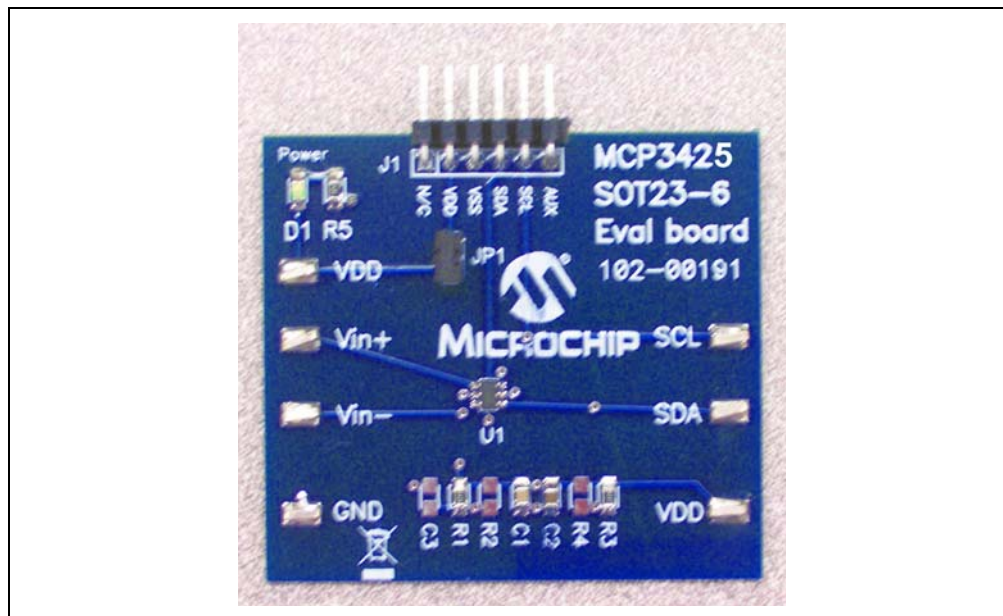
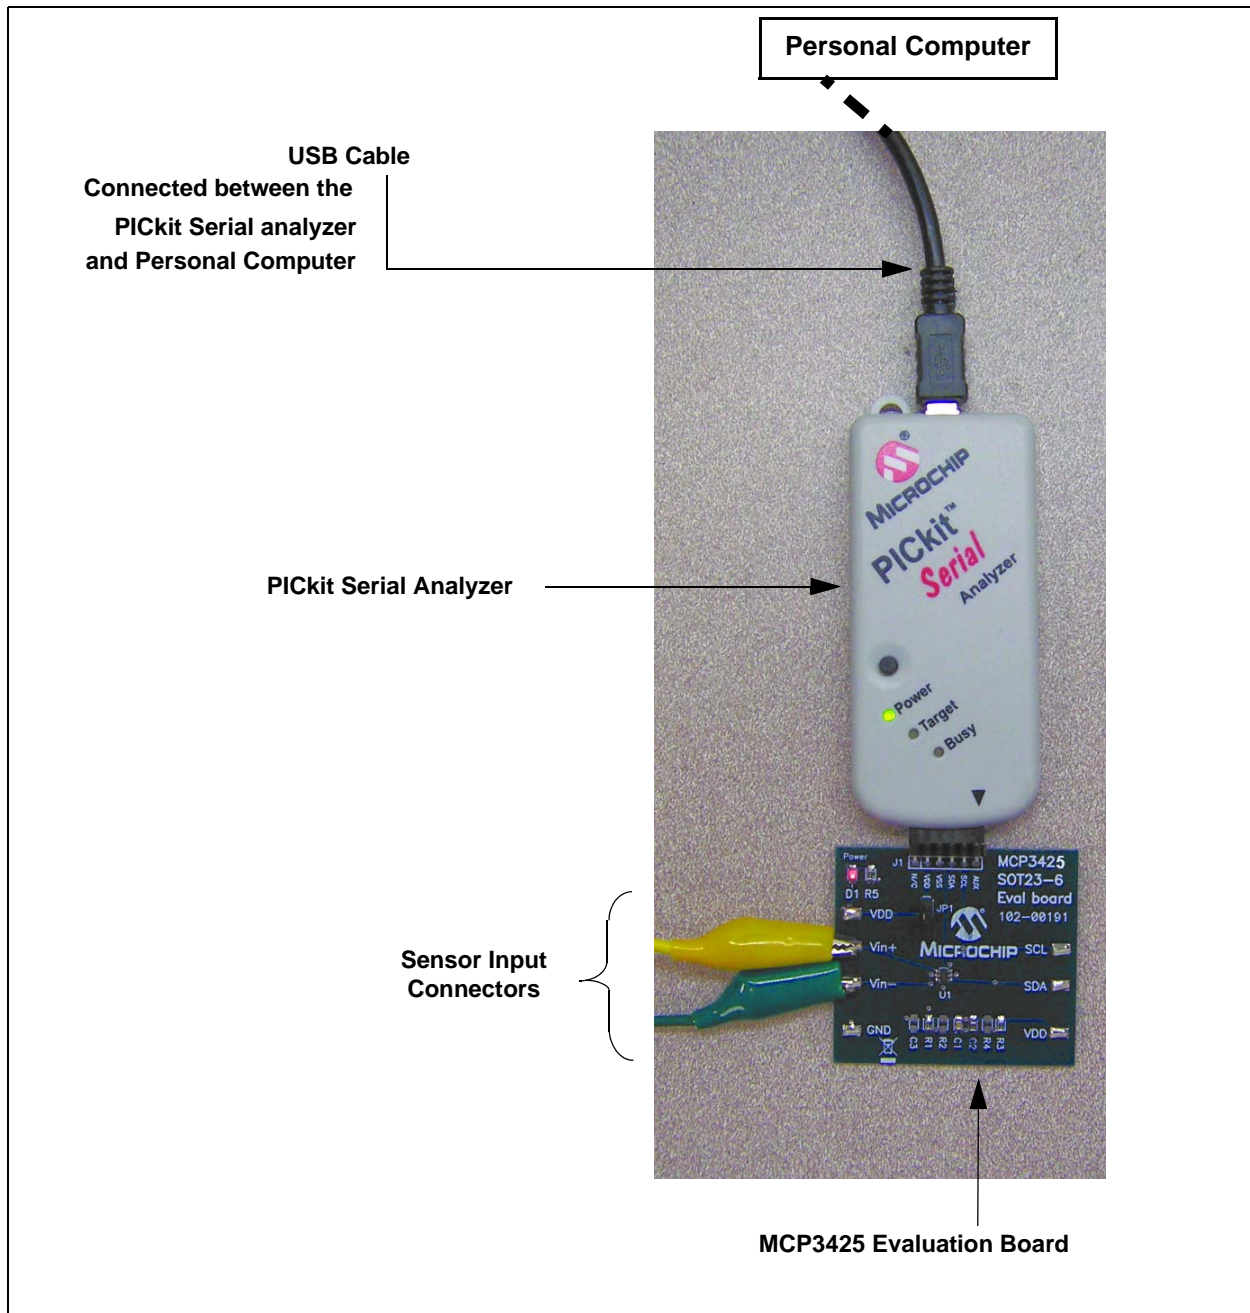

FIGURE 1-1: Front and Back Views of the MCP3425 SOT23-6 Evaluation Board.
FIGURE 1-2: MCP3425 SOT23-6 Evaluation Board with the PICkit™ Serial Analyzer.
Figure 1-1 shows the MCP3425 SOT23-6 Evaluation Board, while Figure 1-2 shows the evaluation board and the PICKit Serial Analyzer connection.
1. Connect the MCP3425 SOT23-6 Evaluation Board's J1 pin socket to the PICKit Serial Analyzer, as shown in Figure 1-2.